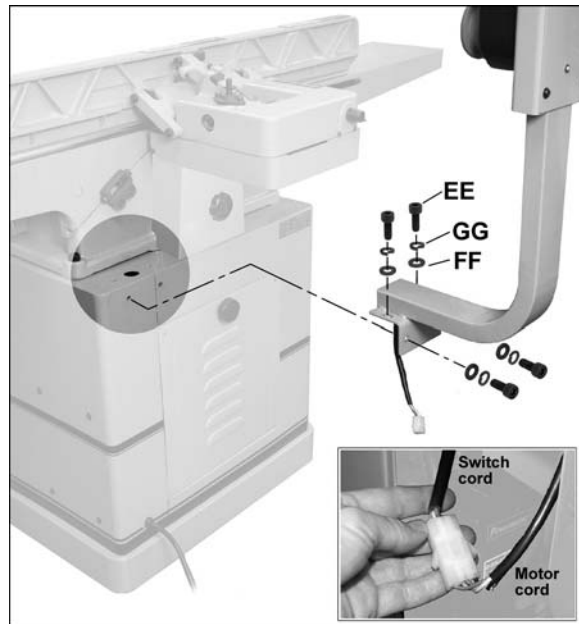

Figure 10
Refer to Figure 10.
2. Secure the switch arm with four *5/16"-18 x 3/4" socket head cap screws (EE)*, four *5/16" lock washers (GG)*, and four *5/16" flat washers (FF)*, using a 6mm hex wrench.
3. Open the stand door, and join the connectors of the switch cord and motor cord, as shown in the detail in Figure 10.